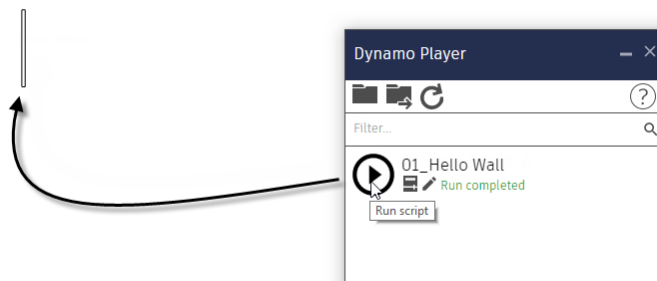

Figure 4
6. Click the play button next to: **01\_Hello Wall** (see Figure 4).